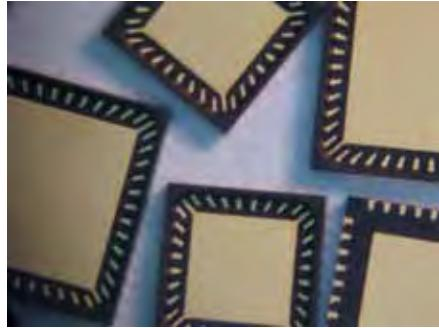

Figure 3:Open molded plastic QFN packages.
U.S. company to turn assembly jobs. They have to have short turn times on prototype builds. Excess capacity isn't necessarily nearly as critical as having manufacturing flexibility to meet surges in demand. A talented, cross-trained workforce is one of the key components to being flexible. Another is the equipment set. Investments in the latest equipment have to be made to stay in step with the leading-edge semiconductor technologies. Newer equipment will tend to be faster and have greater flexibility. Lastly, if the assembly and packaging company can offer some level of wafer processing, it makes the U.S.-based solution even more appealing (**Figure 3**).